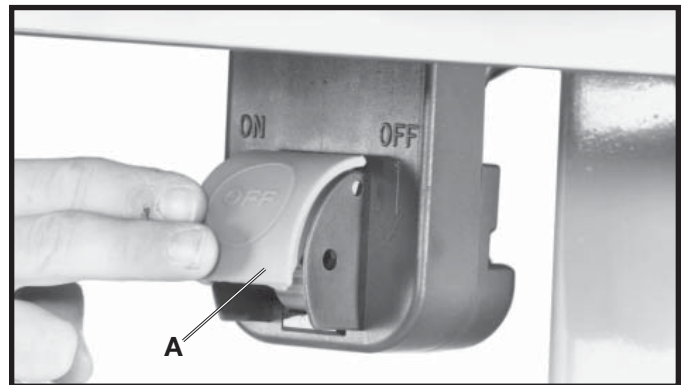

Fig. 56
2. To turn the saw “OFF”, push down on switch shield (A) Fig. 56.